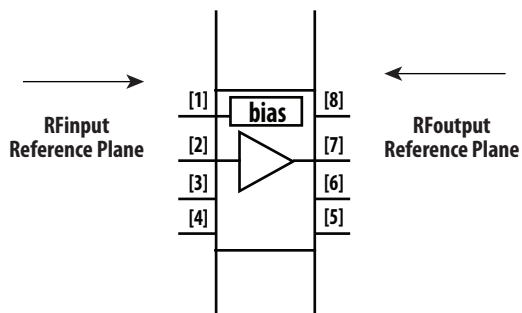

Figure 32
2. Scattering and noise parameters are measured on coplanar waveguide made on 0.010 inch thick ROGER 4350. The input reference plane is at the end of the RFinpin and the output reference plane is at the end of the RFOutput pin as shown in figure 32.